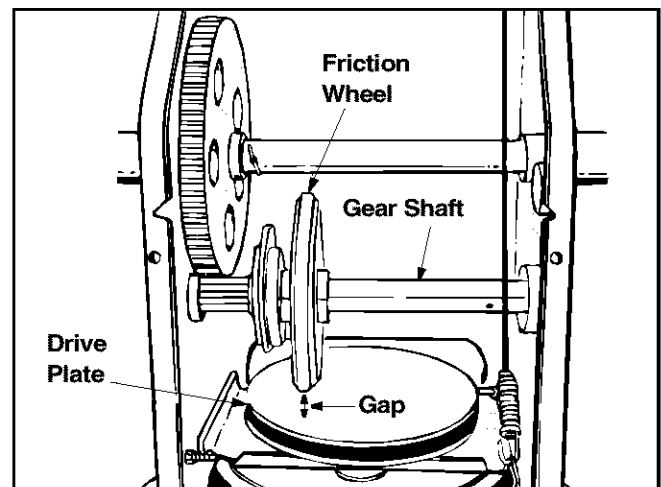

Figure 15
- With the traction control is engaged, the friction wheel must contact the drive plate. See Figure 15.